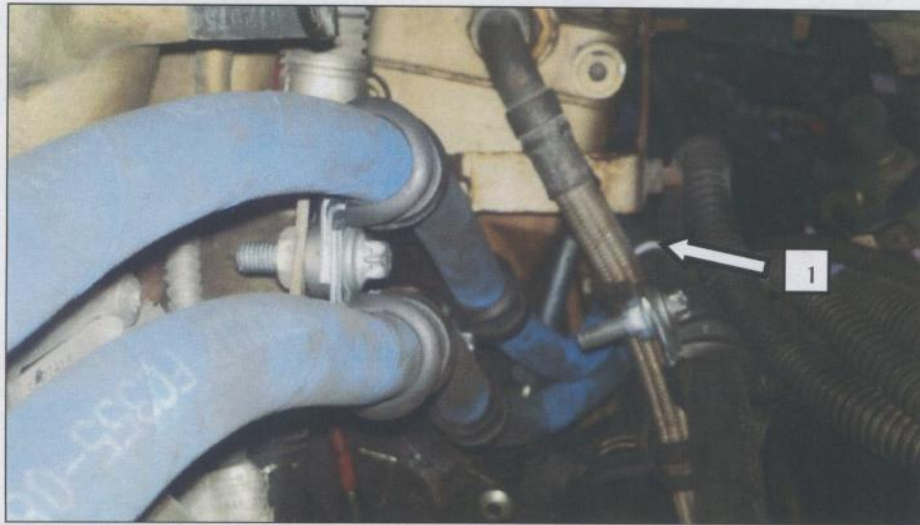

Figure 4 - Torque the Power Steering Pressure Line
35. Angle the power steering pressure line slightly outward toward the frame rail (1). Torque the power steering pressure line at the pump to 42-55 N·m (31-41 lb·ft). See Figure 4.